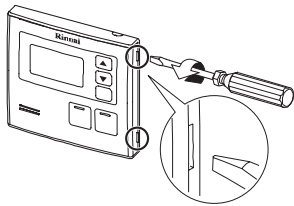

Fig. 2
- Carefully remove face plate from water controller, using a screw driver. (Fig. 2)